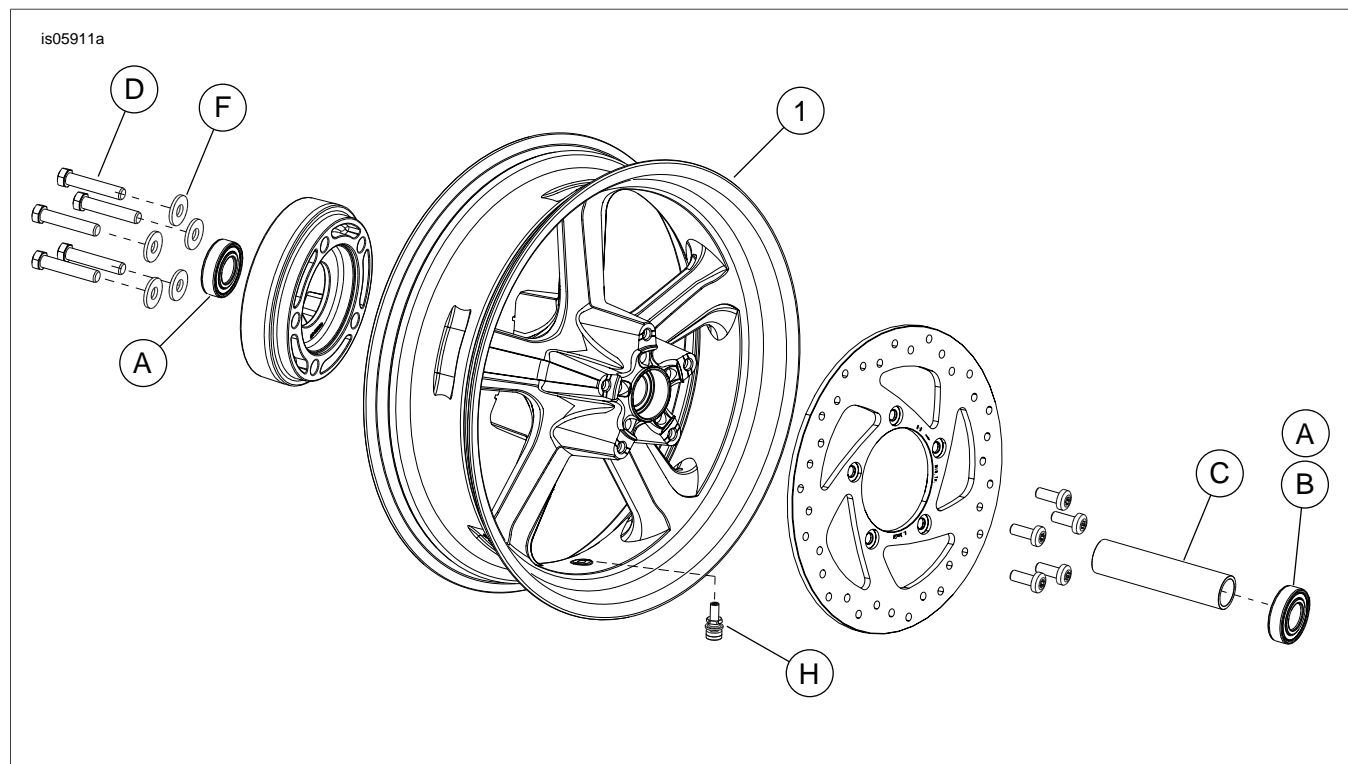

Figure 1. Service Parts: Rear 5-Spoke Cast Aluminum Wheel
See Figure 1 and Service Parts Tables.
2. See Figure 1. Install valve stem assembly (H) on wheel. Refer to TIRES in service manual.